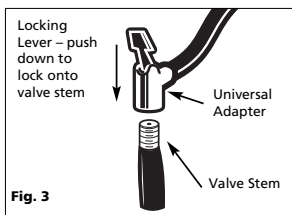

Fig. 3
d.) Press locking lever down to lock onto valve stem (see Figure 3).
- 1) To use inflation accessories, insert accessory into the universal adapter and push the lever to lock into place (see figure 3). The inflation accessory will fit securely.